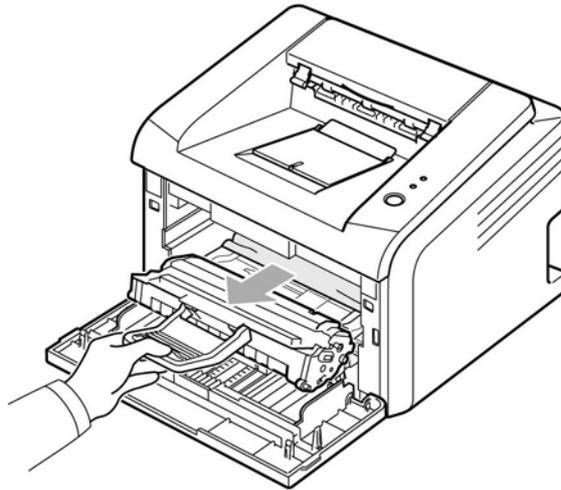

Figure 6
1. Open the front cover, PL 1 and pull the toner cartridge, PL 1 out, Figure 6.